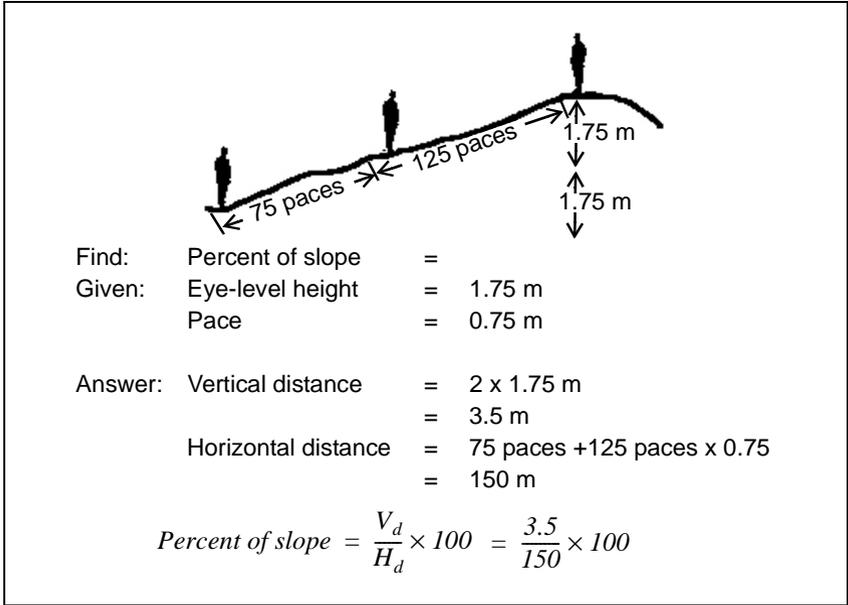

Figure I-7. Determine the Slope Using the Pace Method
I-24. The pace method is another quick way to estimate the percent of slope. Before using this method, accurately determine the height and pace of each member of the reconnaissance team. As a general rule of thumb, the eye level of the average soldier is 1.75 meters above the ground (*Figure I-7, page I-20*). The pace of the average soldier is 0.75 meters. Perform the following steps to determine the percentage of slopes:
Step 5. Calculate the percent of slope by substituting the values into the percent-of-slope formula (*Figure I-7*). Because this method considers horizontal ground distance and incline distance as equal, the reasonable accuracy is only for slopes less than 30 percent. This method requires repeated practice to achieve reasonable accuracy.